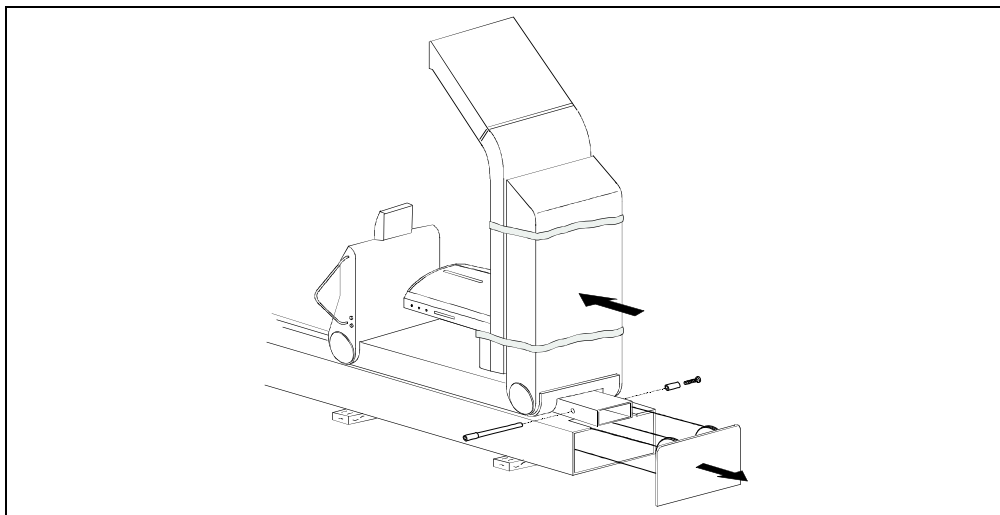

Figure 6-5
6. Align the motor group sliding bearings (110 pounds - 50kg) with the appropriate guides. Remove the motor group upper stop pin and insert the unit (Figure 6-5), allowing only the last ten inches to extend from column. Care must be taken not to scratch the column.